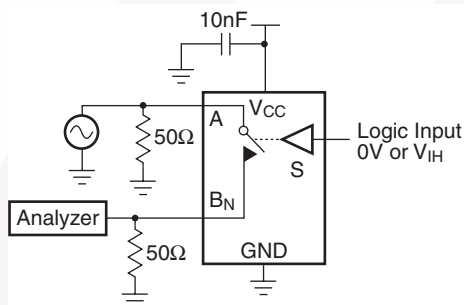

Figure 16. Off Isolation
| OIRR                                   | Off Isolation (10)                                | R L = 50Ω, f = 10MHz                                                                       | 1.65 – 5.5             |                        | –57.0 |      |                                 |      | dB    | Figure 16              |